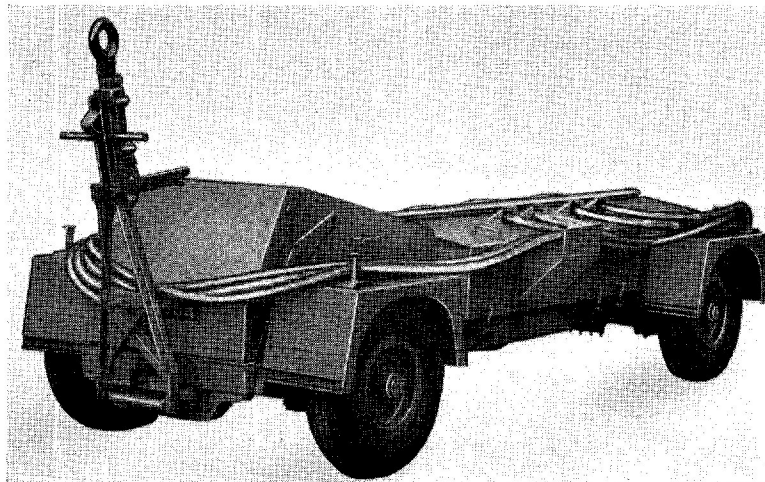

Fig. 1. General view of Simstart trolley
1. Simstart trolleys are designed to provide the necessary starter control circuits and the electrical power for the simultaneous starting of all four engines fitted to the Victor Mark 1 and 1A, Vulcan Mark 1 and 1A or Valiant aircraft. Fig. 1 illustrates a Victor Simstart trolley. A separate trolley is provisioned for each type of aircraft but the basic details, dimensions and weight of the three trolleys are virtually identical, the differences being primarily confined to the start panels and associated wiring. This chapter refers to the chassis, battery connections, and sections of the electrical installation which are common to the three types of trolleys. The Simstart trolley is intended for use only on aircraft which are modified to accommodate it. During simultaneous engine starting the aircraft control and start panels are inoperative, a control panel and four similar start panels fitted to the trolleys are in complete control of the starting procedure. A separate chapter providing comprehensive information on the individual circuits and start panels will be found in Sections 2, 3 and 4 of this publication.